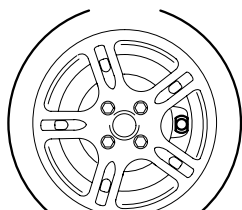

Fig. 1
- Align the wheel so that the receiver can be seen in the centre of the rim opening. **DO NOT** use the rim opening in which the tyre valve is fitted. (Fig. 1)